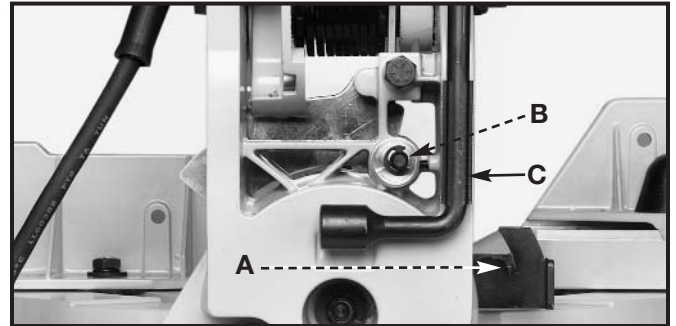

Fig. 27
4. To adjust, loosen the pin locking set screw (C) Fig. 27 (shown from the rear), located on the side of the trunnion and rotate the bushing (B) to the desired location. Rotate the bushing clockwise to decrease and counterclockwise to increase the bevel angle. Tighten screw (C) securely.